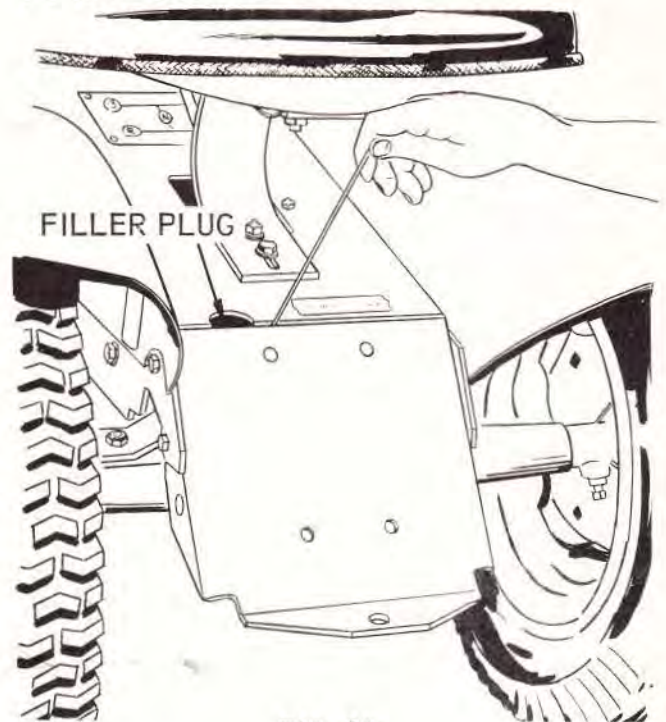

FIG. 19
1. Check oil in transaxle (transmission) every 50 hours of operation. Remove filler plug see Fig. 19 to check oil level. Use a piece of stiff wire 10" to 12" long and insert thru filler opening at a slight angle as shown. Proper oil level will be approximately, 1 3/4" on the wire. Add gear lubricant if necessary to bring level to 1 3/4" on wire. Use Allstate or any high grade multi-purpose extreme pressure gear lubricant SAE 90. Gear case capacity of transaxle is 1 quart.